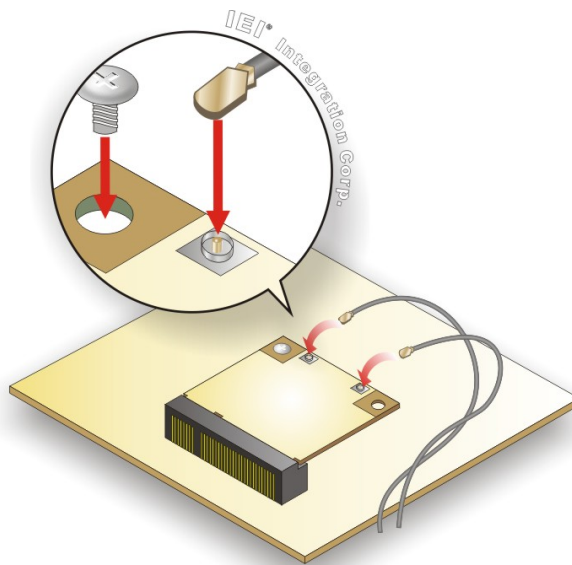

Figure 3-22: Securing WLAN Module and Connecting RF Cables
Step 6: Secure the WLAN module with the retention screw previously removed (**Figure 3-22**).
Step 7: Connect the two RF cables to the antenna connectors on the WLAN module (**Figure 3-22**).